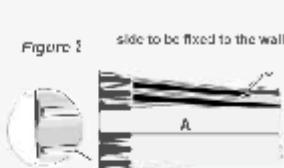

Figure 2
- 2** This product can also be installed with the use of double sided tape along its length. If this is the option, use the product protrusions to anchor the tape, as shown in figure 2. Clean the wall thoroughly to ensure the quality of the fixation